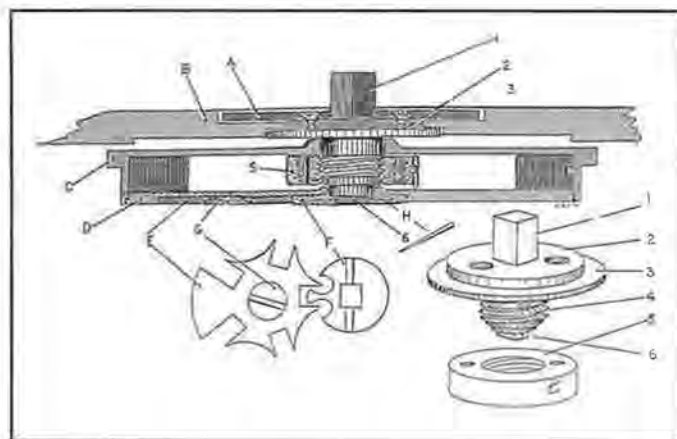

Figure 4.
This view in Figure 4 illustrates the method by which the barrel is journaled onto the barrel bridge. It also shows the precise endshakes allowing it to revolve freely. Numerals in this view refer only to the one-piece barrel arbor with the sole exception of the threaded ring (5). All other parts are illustrated and referred to by letters of the alphabet.
4. The threaded post of the arbor. Upon this threaded post is the arbor ring nut (5).
5. The arbor ring nut. This threaded nut secures the barrel to the arbor, yet allows a precise amount of endshake between the upper, raised boss of the barrel and the arbor flange (4). The hook is positioned so that the normal pull of the mainspring is in the thread-tightening direction.
6. The lowest square of the arbor. Upon this square is situated the stopworks index (F). Notice the hole in the square